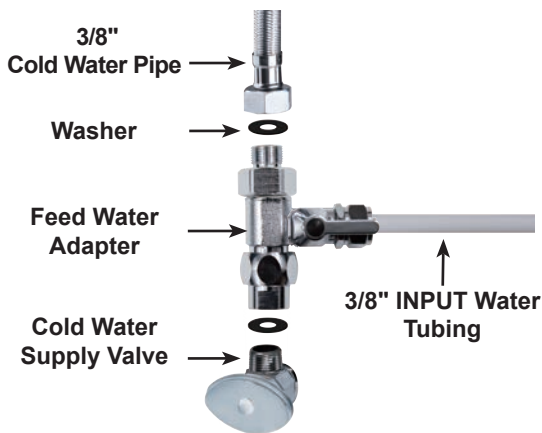
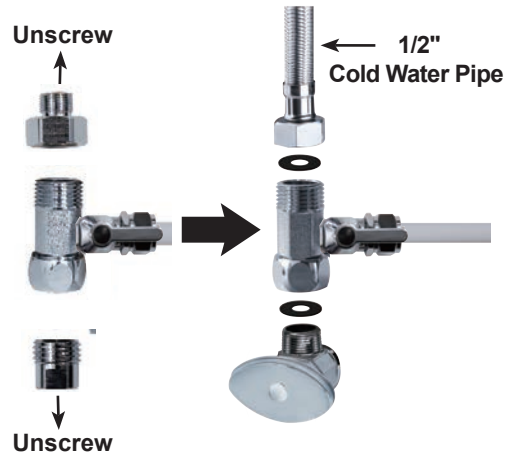

Figure 4
Figure 5
3. Twist the feed water adapter onto the cold water supply valve (with its washer) and tighten it with an adjustable wrench (Figure 4); **NOTE:** If the cold water pipe is 1/2", unscrew the two converters from the feed water adapter (Figure 5), and then implement step 3.